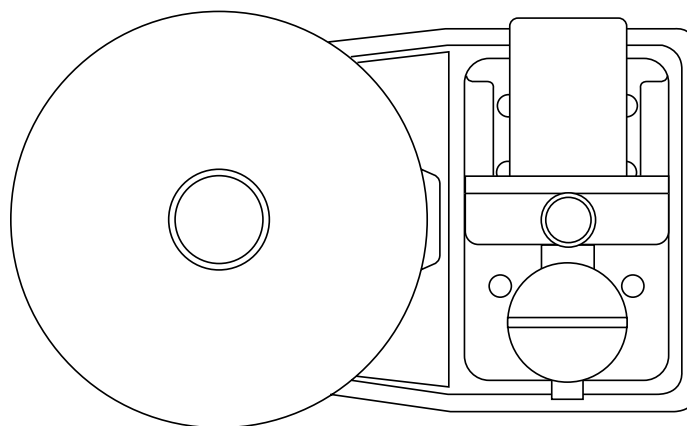

Figure 2.
c. The pump may now be attached to the pump support side of the base using two bolts. The pumps should be positioned as indicated in Figure 2.